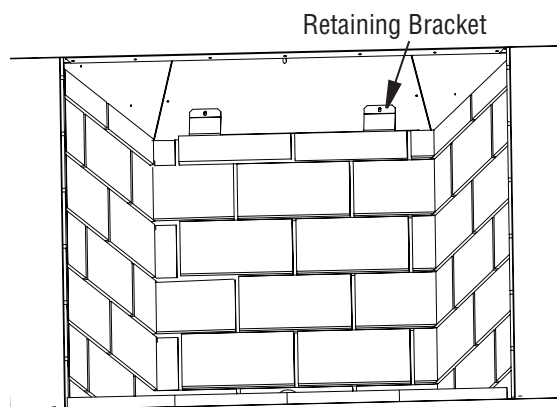

Figure 34 - Installing Rear Wall
4. Install the rear firebrick wall last. Place the wall face side down on the hearth with the bottom of the wall toward the rear of the firebox and the top toward the front of the fireplace. Tilt the wall up toward the back of the firebox. Secure with 2 rear retaining brackets provided (Figure 34).